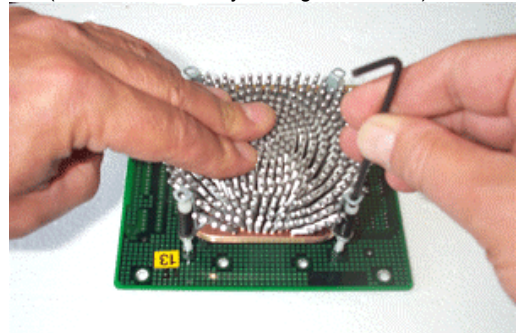

Figure 4
- Hold the heatsink in the center to prevent it from tilting as shown figure 4. Start tightening screw #1 by two turns, then reach screw #3 and tighten it by two turns. You can release your hold on the heatsink once these first two screws have been engaged. Be careful not to cross thread! Screws should spin relatively freely into the standoffs except for the resistance created by the spring.